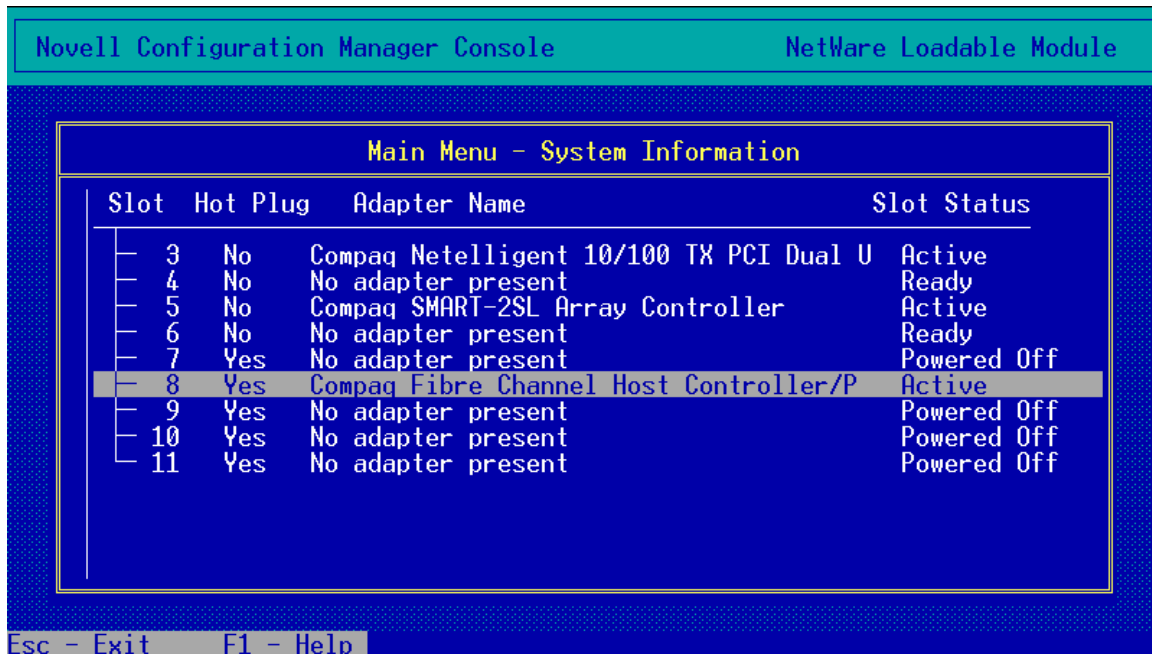

Figure 5. Novell Configuration Manager – New adapter available, powered on with drivers loaded.
- **Hot expansion of boards** – You can insert a new board into an empty slot, load the associated device driver, and power up the slot to provide a new service. See Figure 5.